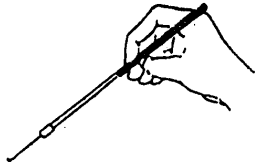

FIGURE 7-3
- 1- Hold both tubes in your left hand and the inoculating loop in your right hand, as shown in Figures 7-2 and Figure 7-3 (Everything is reversed if you are left-handed).